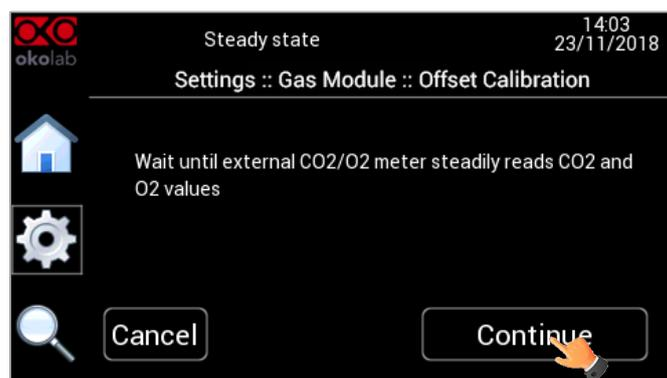

Figure 42. Wait until external gas meter steadily reads.
6. The page shown in Figure 42 appears. Wait until LEO stabilizes the CO₂ and O₂ readings; this may take 5-6 minutes. Then press on *Continue* button as shown in Figure 42.